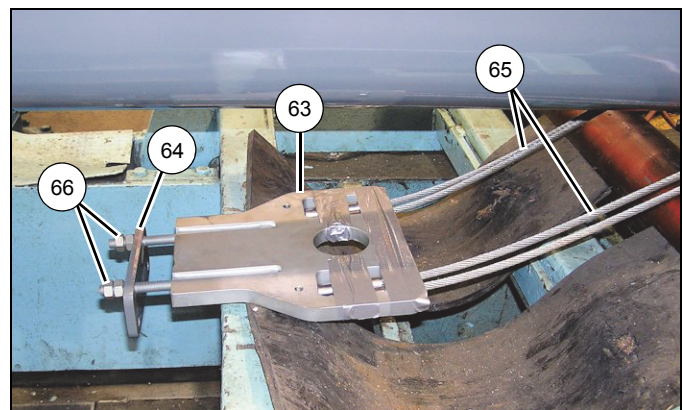

FIGURE 4-6
27. Remove the nuts (66) securing the anchor plate (64) to the studs of the retract anchor weldment (63) (see Figure 4-6).